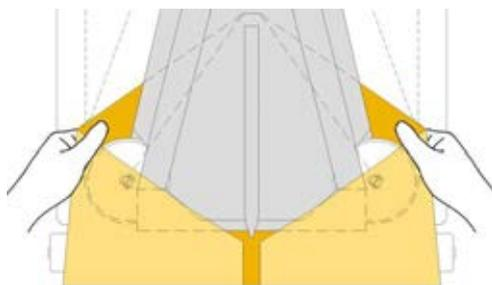

Figure 17 Guide Paper onto Pre-Former - Step 1
2. Thread the paper through the rollers (refer to Figure 17).